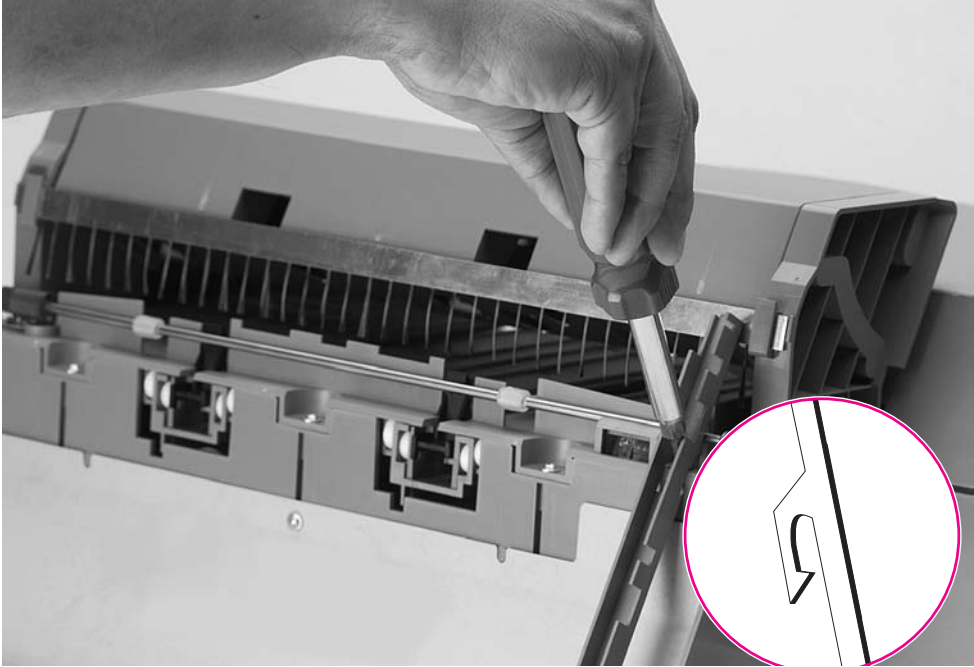

Figure 6-182 Back Plate (1 of 2)
- 2 Remove the Scan Bar by carefully pressing the tab on the scan bar backwards and downwards through the hole of the Stapler Bed (see figure 6-182) with a flat-tip screwdriver, then lift the bar.
- 2 Remove the Back Plate (see figure 6-182).
- 2 Open the Top Cover Assembly, and remove the Back Plate (see figure 6-182 on page 369).
- 2 Remove the Back Plate (see figure 6-182 on page 369).